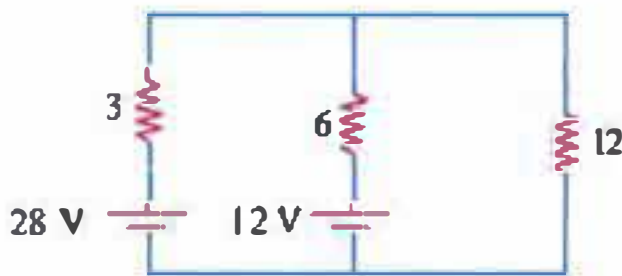

Fig. 4.24
- 1. Use Superposition Principle to find current through 12Ω resistor of Fig. 4.24. All resistance values are in ohms. [34/21 A]